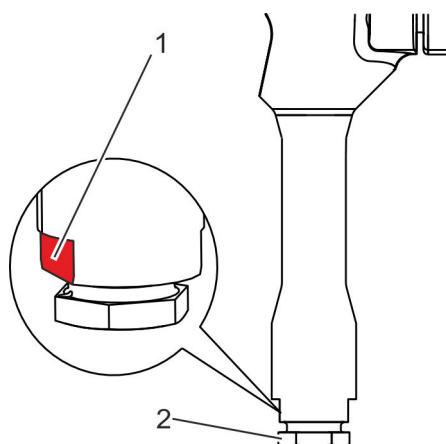

Fig. 13: Holding the spanner flats in position
Use a size 30 spanner in the area of the spanner flats (Fig. 13/1) to hold the valve body in position.
8. → Unscrew the pressure screw (Fig. 13/2) using a size 27 spanner in an anticlockwise direction.